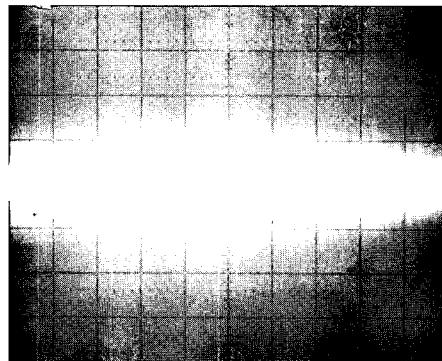

Figure 5-7. Waveform at A13TP2.
- d. Adjust "OFS-2" potentiometer A13R2 until dc level of displayed waveform is within $0\text{mV} \pm 1\text{mV}$. Refer to Figure 5-7 which shows well adjusted waveform.